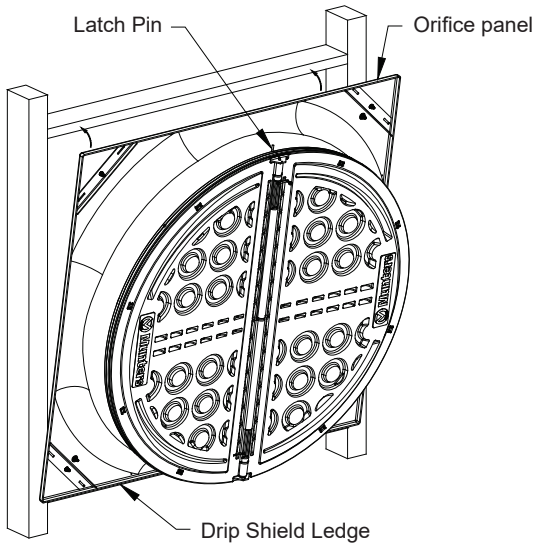

Figure 5A
Locate the Drain hole in the Orifice Panel. This is the bottom of the Fan. Set the bottom edge of the fan on the Drip Shield ledge and center the panel on the opening. Then secure the Fan to the wall using (16) Barn Screws (Not Provided). See Figure 5A and 5B.